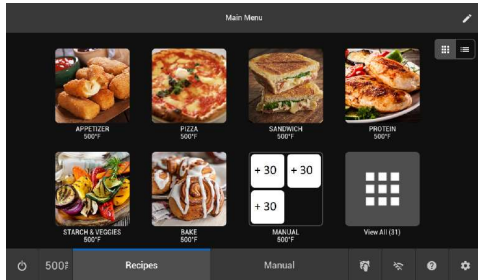

Figure 30: Select Groups to Place Recipe Into
10. Select which group(s) to which the recipe will be added (Figure 30, below).